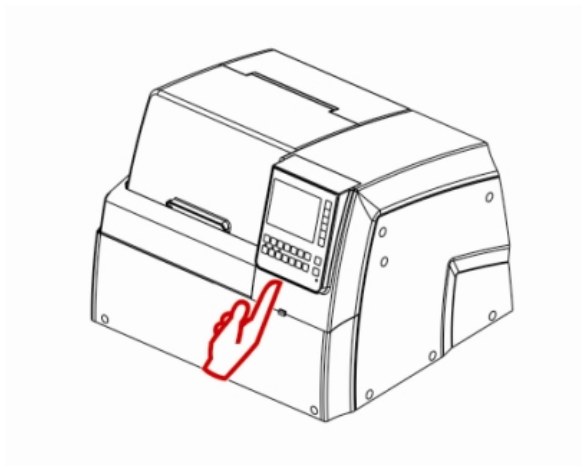

Figure 1
- B. to put the main body on the table, then open the cover of LCD screen, as figure 1.
To put the main body on the table as figure 1 and open the cover of LCD screen.
- A. to assemble water tank and connect the wires of water pump to the back of main body as Figure 1 as above.
D. if the head moves to right, then to adjust the right foot higher (turning in clockwise direction, as figure 1)